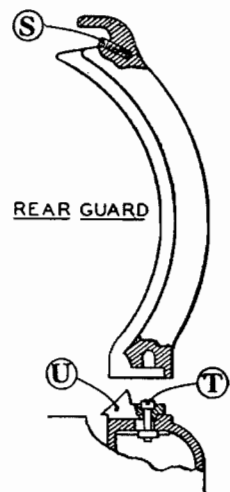

Fig. 4
- 2 — Move the rear guard nearer the knife. To do this, take the guard off and screw the stop stud S down a little (See Fig. 4). Then loosen screw T and move the block U nearer the knife.